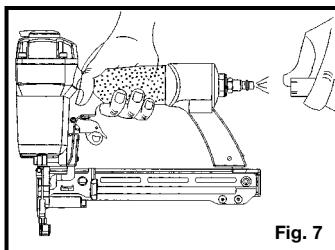

Fig. 7
**11. Connect tool to air supply hose** with a coupling that automatically removes all pressure from the tool when the coupling is disconnected. Fig. 7.
**12. Disconnect tool from air supply hose** before doing tool maintenance, clearing a jammed fastener, leaving work area, moving tool to another location, or handing the tool to another person. Fig. 7.